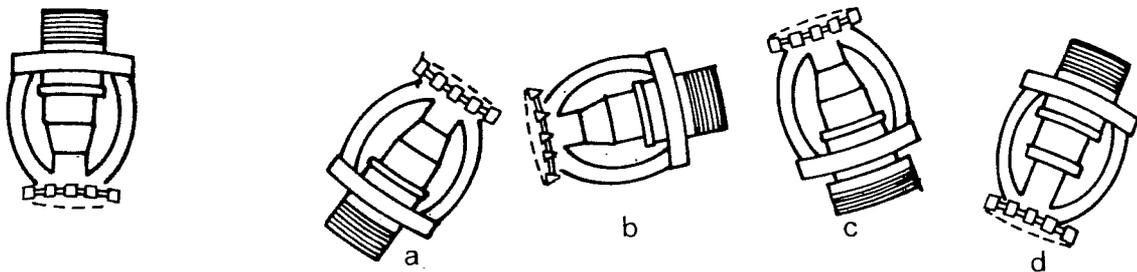

Figure 20
20. Which of the sprinklers below on the right is identical to the sprinkler in Figure 20?